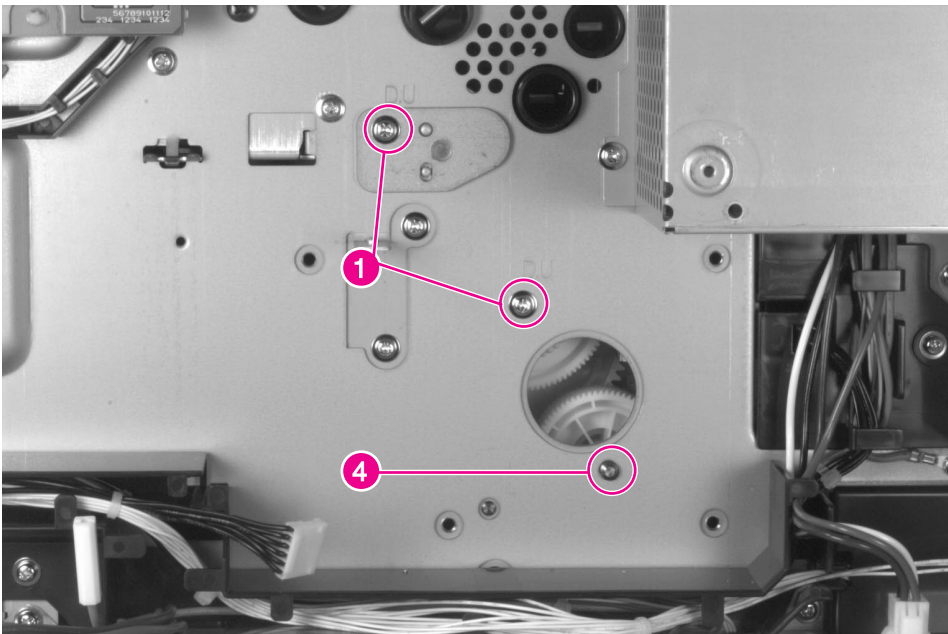

Figure 6-38 Main Gear Assembly (1 of 3)
- 2 Remove 2 screws (figure 6-38 on page 206, callout 1).
- 4 Make sure that the locating pins are properly aligned and that the gear assembly fits tightly against the chassis before replacing the screws (figure 6-38, callout 4).